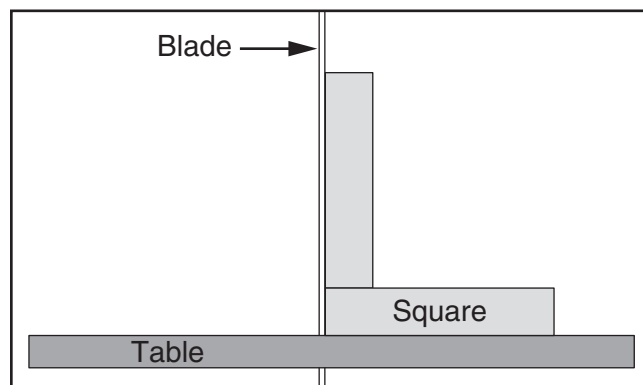

Figure 115. Adjusting table perpendicular to blade (side to side).
2. Place one edge of square on table and other edge of square against blade side, as shown in **Figure 115**.